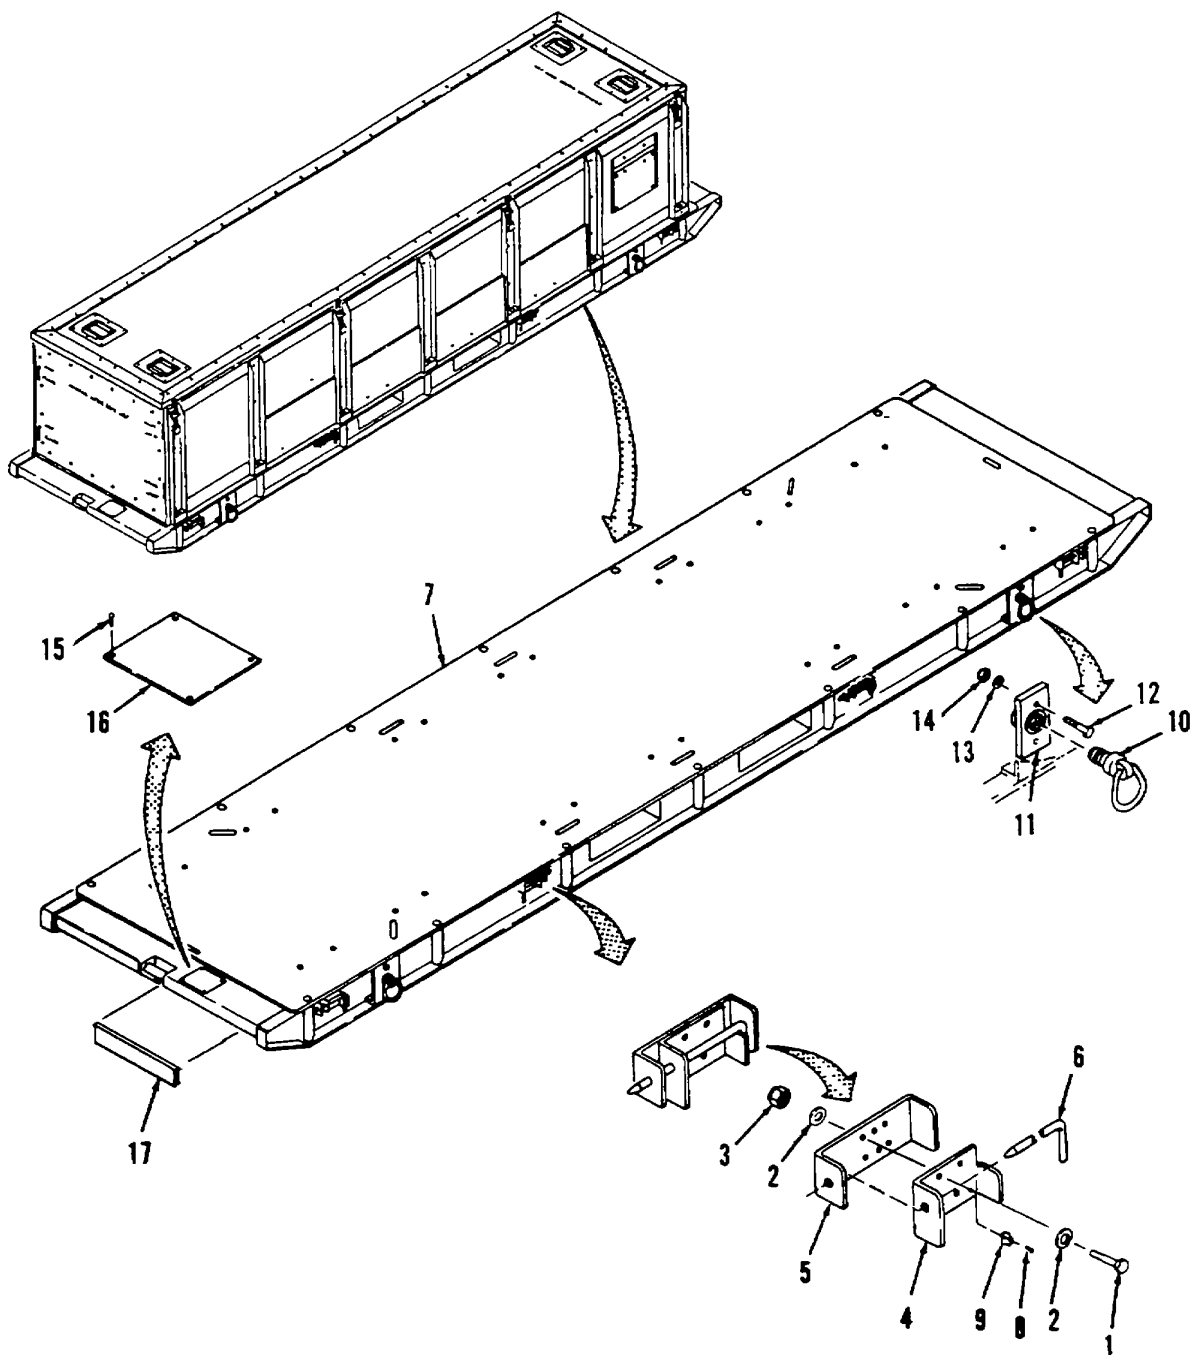

Figure 4-6. Skid Assembly, Repair.
a. Disassembly. (Refer to Figure 4-6.)**NOTE**